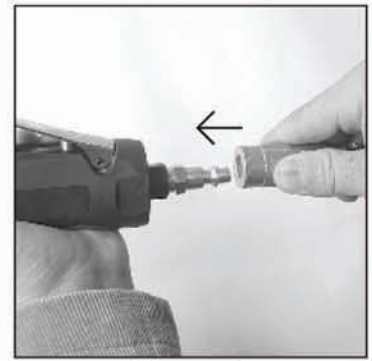

Figure 4
5. Remove the air cap from the tool air inlet and connect the air supply hose to the tool. Set the air pressure at 90 PSI. (See Figure 4)